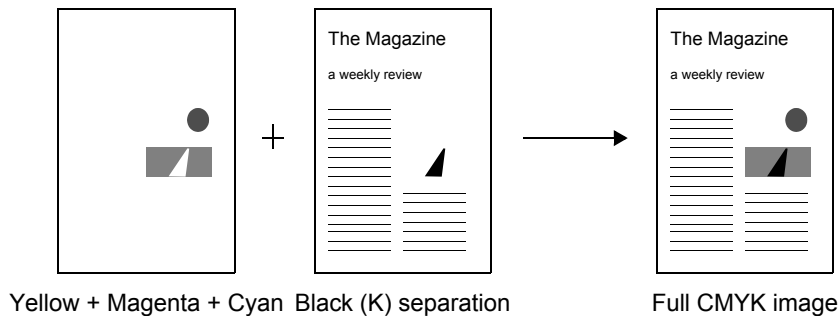

Figure 13.8 Yellow, Magenta, Cyan, and Black separations
Finally, the black ink for the black (K) separation is printed. All of the separations have been combined, producing a full-color image as simulated in Figure 13.8.